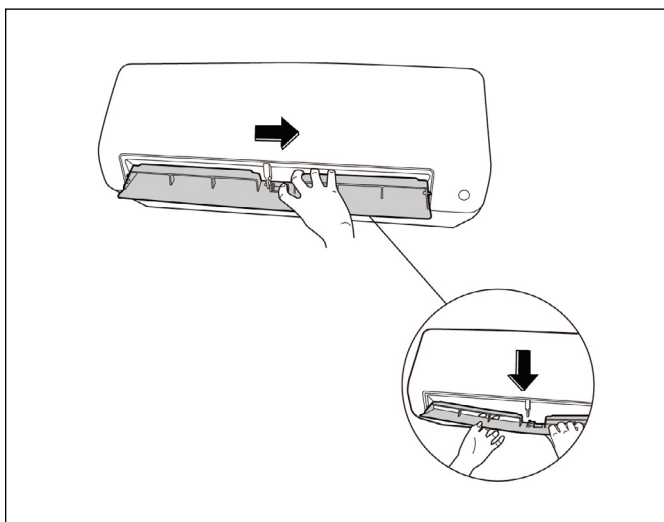

Figure 68
3. Bend the horizontal louver lightly to loosen the hooks, then remove the horizontal louver. (see Figure 68)